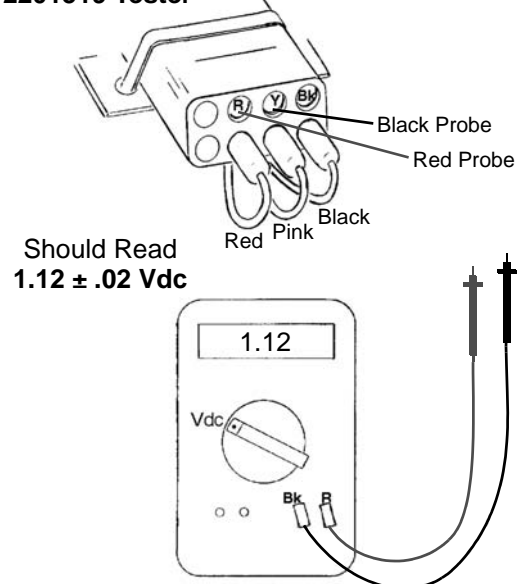

Figure 4-21
4. Set your voltmeter to read Vdc. Connect the red voltmeter probe into the “R” test port and the black voltmeter probe into the “Y” test port (see Figure 4-21).
4. Rotate the TPS until your voltmeter reads **1.12 ± .02** volts (see Figure 4-21).